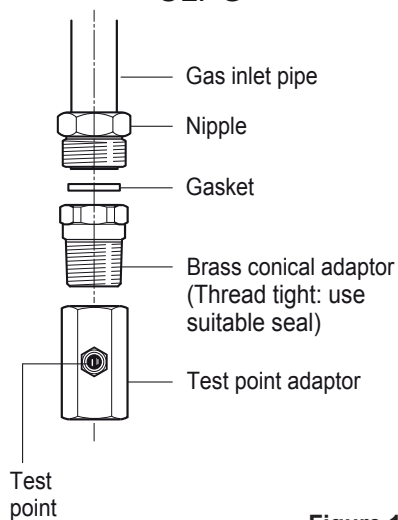

Figure 12a
- Before connecting the appliance to the gas main, mount the brass conical adaptor onto the gas inlet pipe, upon which the gasket has been placed (figs. 12a - 12b). Conical adaptor and gasket are supplied with the appliance (packed with conversion kit for use with Natural Gas or ULPG).
- For ULPG models the gas supply is connected to the test point adaptor which is supplied with the appliance (fig. 12a) and ensure that the supply pressure is regulated to 2.75 kPa.
- If the cooker is suitable for use with Natural gas and must be converted for use with ULPG, before connecting to the gas mains remove the appliance gas regulator and replace with test point adaptor (see figs. 12a - 12b).
- If the cooker is suitable for use with ULPG and must be converted for use with Natural gas, before connecting to the gas mains remove the appliance test point adaptor and replace with gas regulator (see figs. 12a - 12b).